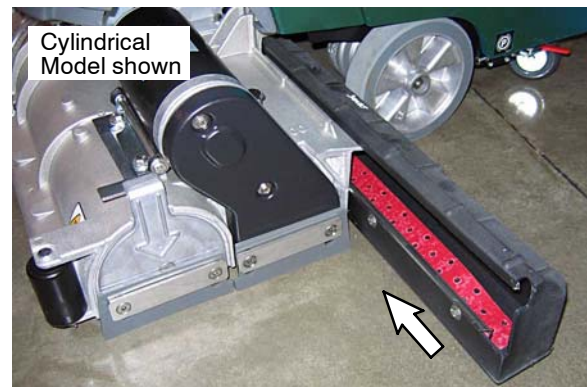

Fig. 13
14. Install the cylindrical scrub head debris trough (Figure 13).